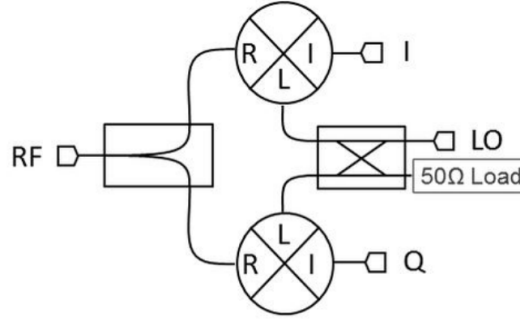

Figure 4: Internal structure of the IQ mixer consists of two simple mixers.
Carrier(LO) Leakage is caused by DC-offsets in both I and Q ports of the mixer. This offset is caused by a conversion loss imbalance between the two mixers which are inside the IQ mixer shown in Figure 4.